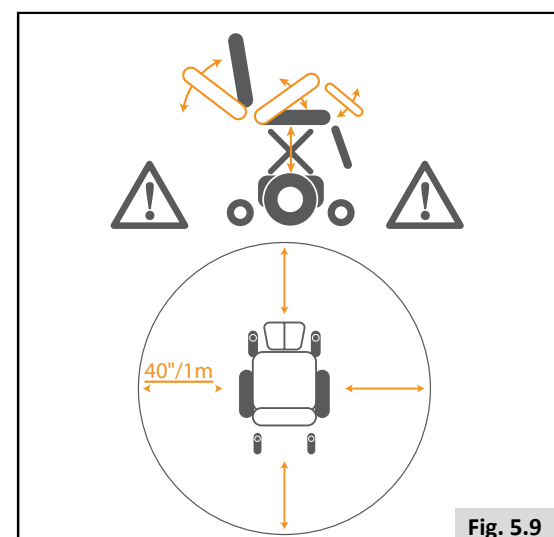

Fig. 5.9
- As with all moving parts be careful not to trap your fingers (Fig.5.9).